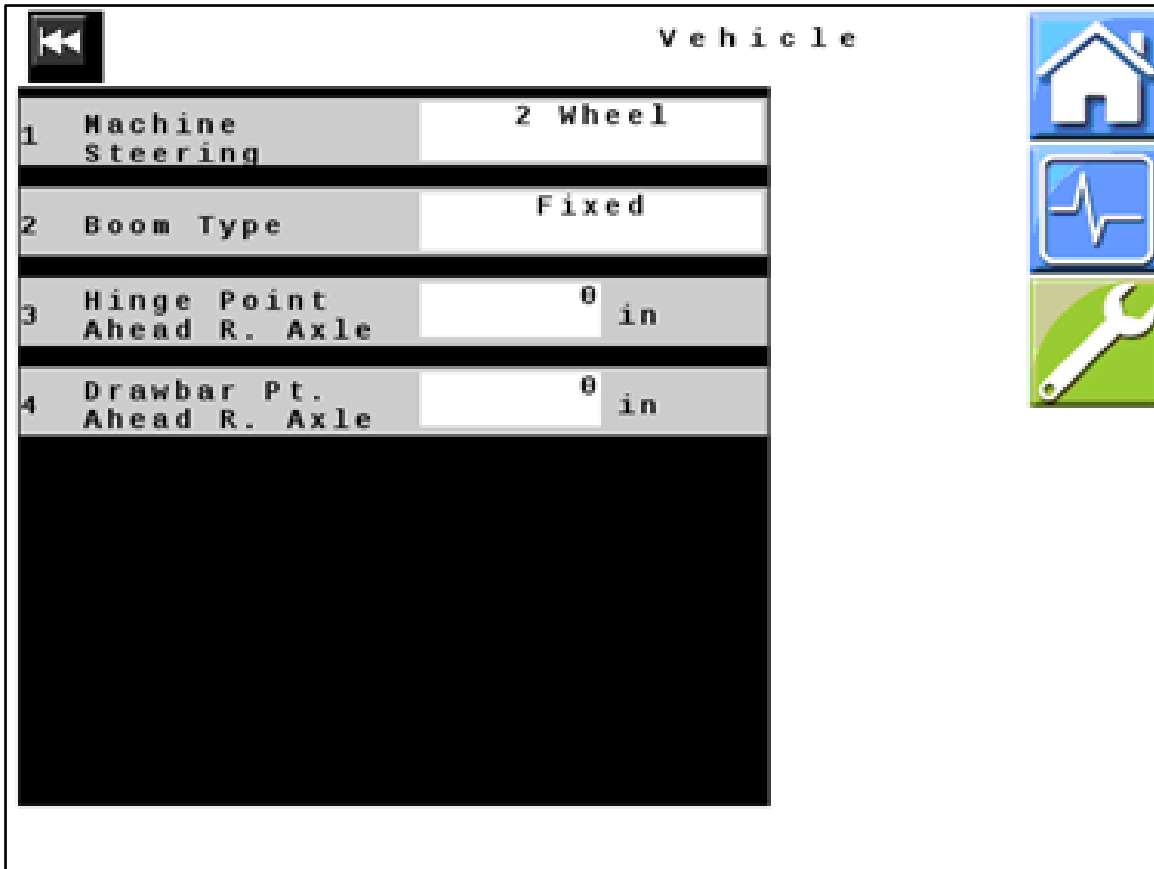

Figure 19 — Vehicle
33. *Figure 19:* Verify that all values displayed on your unit match those shown here. Change values if necessary.